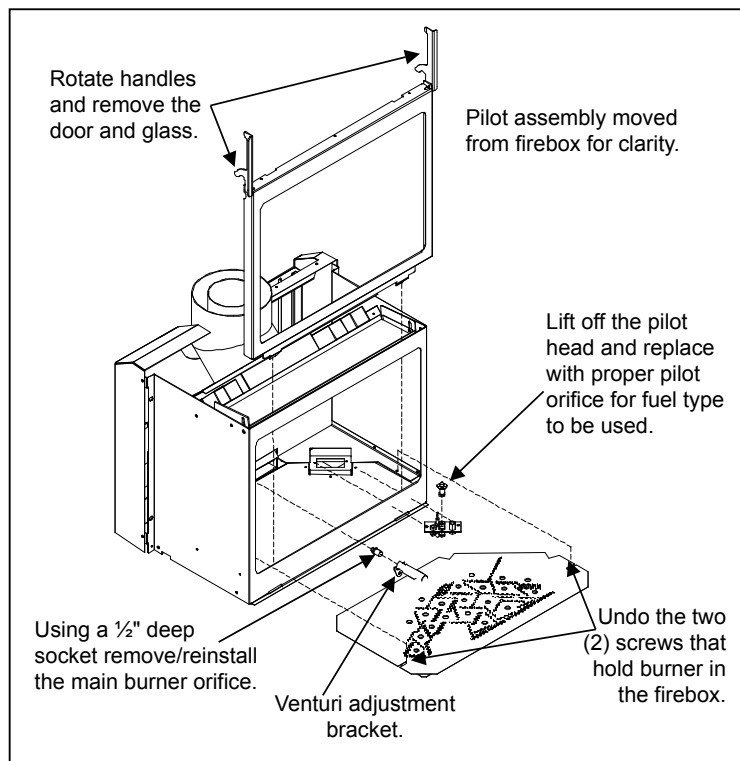

Figure 8: Unit burner shown apart.
3. Remove the two (2) screws (located on the outside edges of the burner) that hold the burner to the chassis inside the fire box, see Figure 8. Remove the burner tray from the firebox.